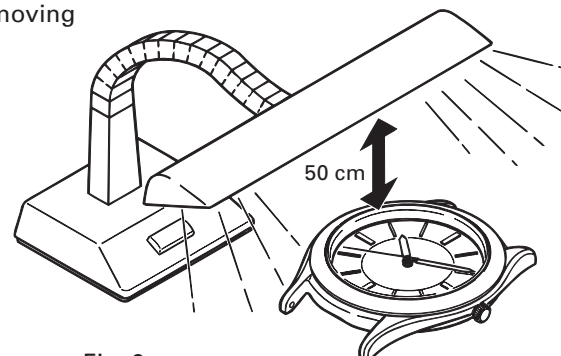

Fig. 9
- 1) Place the watch which stops working at a distance of 50 cm under the fluorescent lamp of 15 to 20 watts (Fig. 9.)